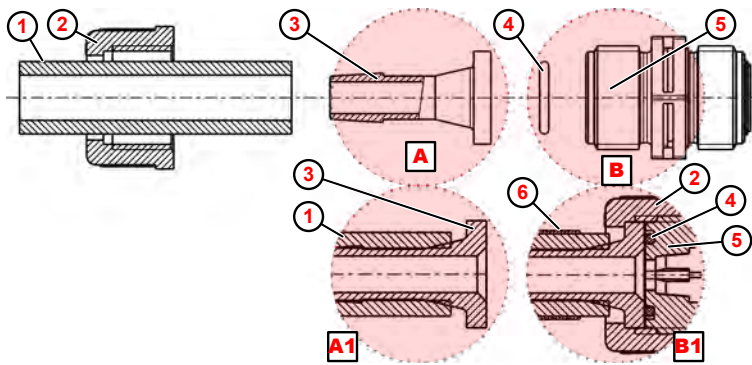

Fig. 6: Pipe and hose connection with attachment nipple and hose clamp
1. ➤ Cut off the hose with a straight cut (Fig. 6 , ①).
2. ➤ Slide the hose clamp ⑥ over the hose ①
3. ➤ Slide the union nut ② over the hose ① .
4. ➤ Slide the hose ① onto the attachment nipple ③ up to the stop collar (for details, A1).
5. ➤ Place the o-ring ④ in the groove of the suction or pressure valve ⑤ .
6. ➤ Tighten the union nut ② .
7. ➤ Push the hose clamp ⑥ downward and tighten (for details, B1).